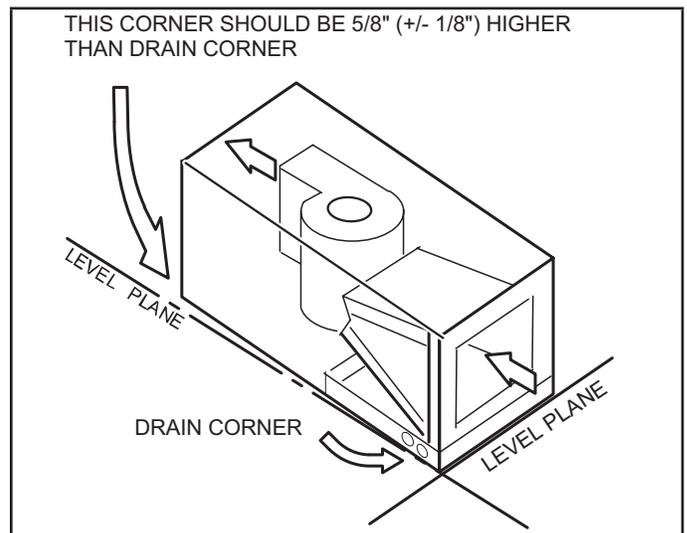

FIGURE 16. Sloping the Unit for Proper Drainage
- 4 - Set unit so that it is sloped toward the upflow drain pan end of the unit and level from front to back of unit (see FIGURE 16).
- 10 - Set unit so that it is sloped shown in FIGURE 16. Connect return and supply air plenums as required using sheet metal screws.
Make sure the unit is sloped (similar to the slope shown in FIGURE 16) so that the drain pan will empty completely without water standing in the pan.